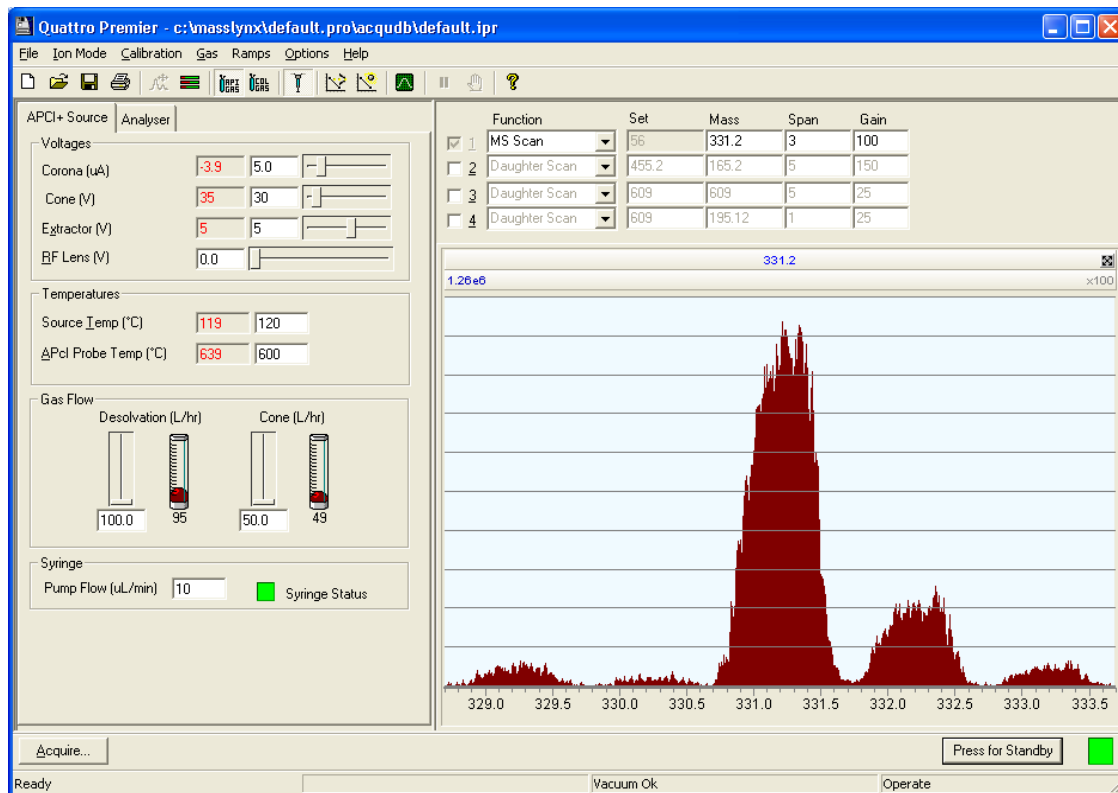

Figure 3-5 Tune Window with a 17- α -Hydroxyprogesterone Peak
21. Observe the 17- α -hydroxyprogesterone peak at m/z 331.2 ($M+H^+$) in the Tune window (see Figure 3-5).
31. Confirm that the displayed peaks have the correct resolution and the isotopes are resolved as shown in Figure 3-5. If necessary, adjust the Analyser page LM Resolution 1, HM Resolution 1, and Ion Energy 1 slider bars to achieve optimum resolution.
32. In the Tune window, determine the m/z value of the peak's center to one decimal place (Figure 3-5). Record this value.